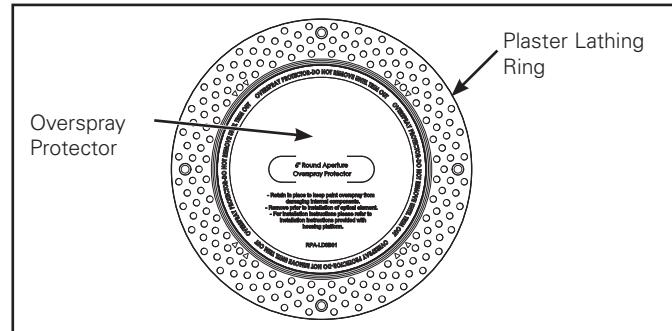

Figure 1.
1. Remove plaster ring from packaging and remove overspray protector (Figure 1) **DO NOT DISCARD.**